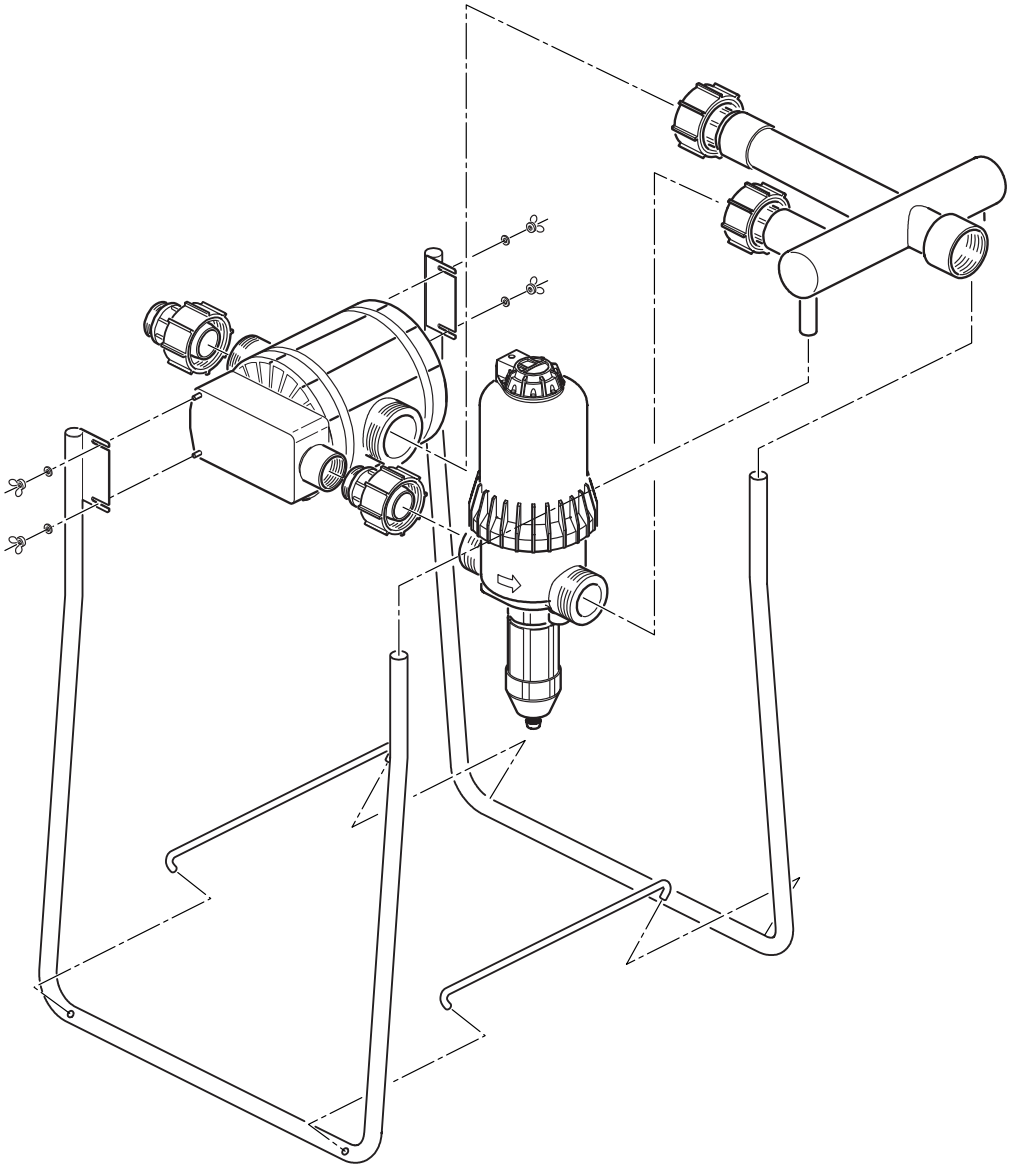

**Fig. 1**
- Remove the red protective caps (types **A & B**) from the Proportional Injector and the turbo block inlets and outlets. Retrieve the spacing rings (**D**) and O-rings (**C**) and fit them on to the inlet and outlet adaptors as shown in **Fig. 1** (fit plastic spacing ring first, rubber O-ring second).
- Remove the protective caps (**Fig. 1 - E**) from the Proportional Injector concentrate intake.